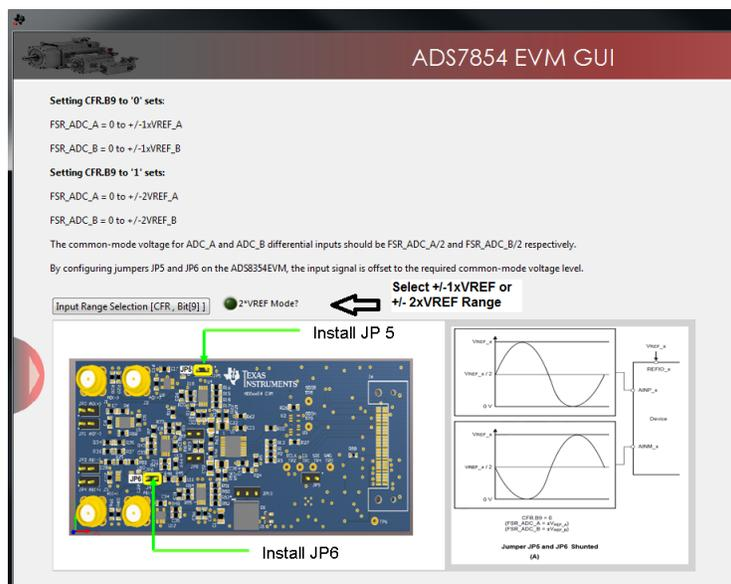

Figure 18. Selecting $\pm 1 \times V_{ref}$ Range or $\pm 2 \times V_{ref}$ Range
- Scroll down in the *ADSxx54EVM Settings* page and find the *Input Range Selection [CFR, Bit[9]]* button to select the $\pm 1 \times V_{ref}$ range mode or $\pm 2 \times V_{ref}$ range mode. Jumpers JP5 and JP6 must be installed when selecting the $\pm 1 \times V_{ref}$ range. Uninstall jumpers JP5 and JP6 when selecting the $\pm 2 \times V_{ref}$ range mode. The GUI displays the appropriate JP5 and JP6 jumper settings, as shown in Figure 18